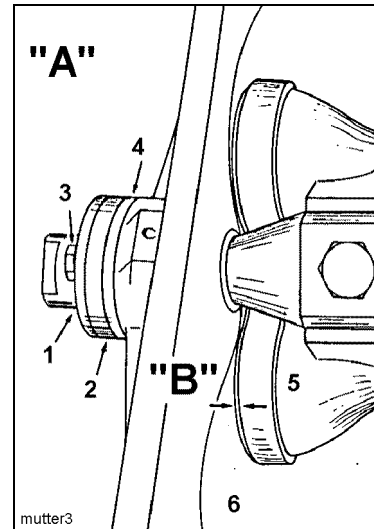
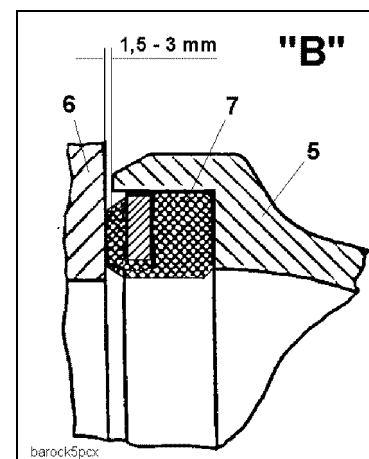

Fig.: 7
Fig.: 8
Metallic contact between rock 5 and housing lining 6 (Fig.: 7 - Fig.: 8) indicates an error. For example:
- Remove safety screw 3 (Fig.: 7) with disc.